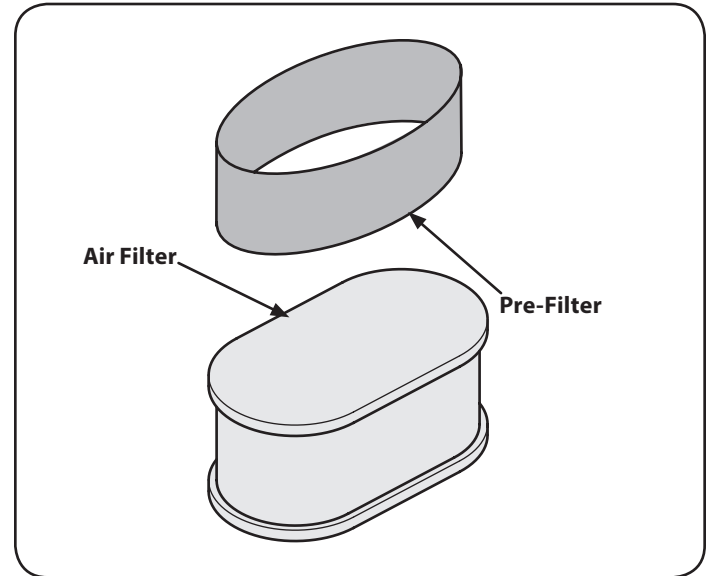

Figure 16
3. Remove the foam pre-filter from around the paper air filter. See Figure 16. Replace paper element when dirty or damaged. Clean foam element or replace when damaged.